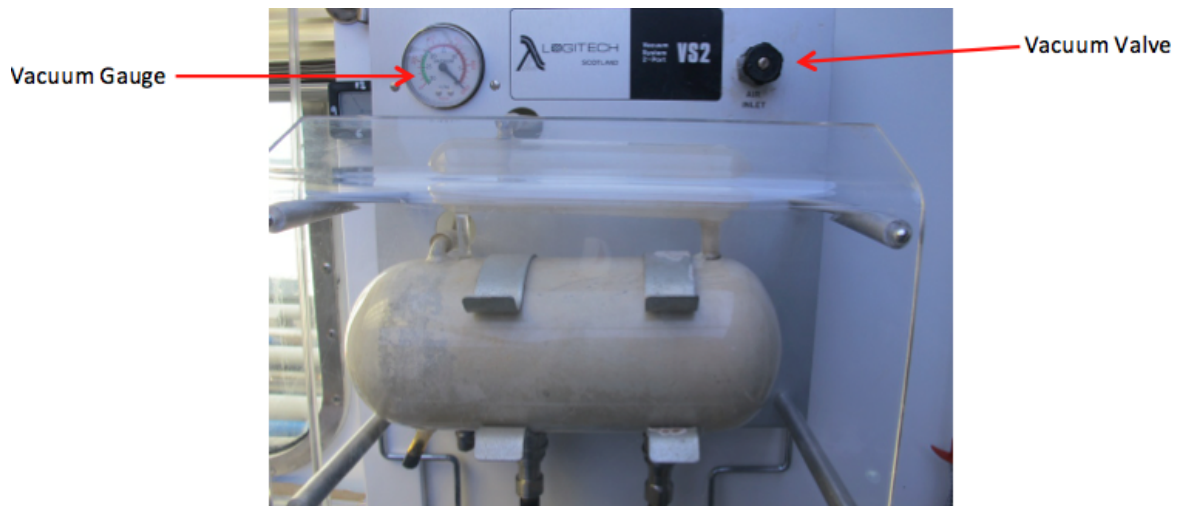

Figure 4
3. Hold the back side of the slide onto the chuck face over the vacuum grooves and in the plastic pegs. Close the valve on the upper right side of the Logitech VS2 (Fig.4).